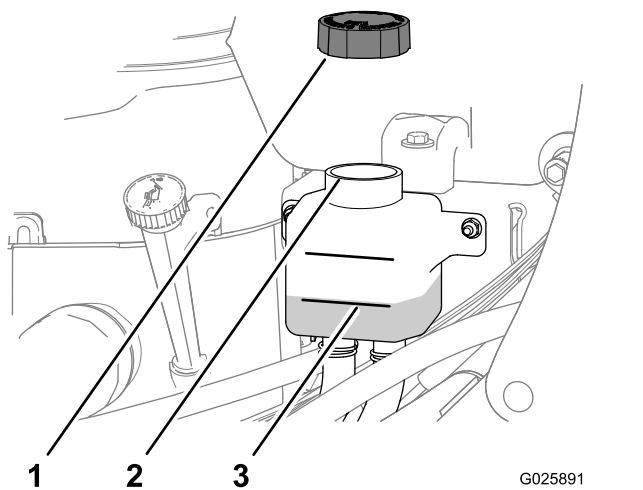

Figure 67
4. If necessary, add the specified transmission fluid until the fluid level is at the Full Cold line of the expansion tank (Figure 67).
3. Remove the cap from the expansion tank and check the hydraulic-fluid level in the tank (Figure 67).